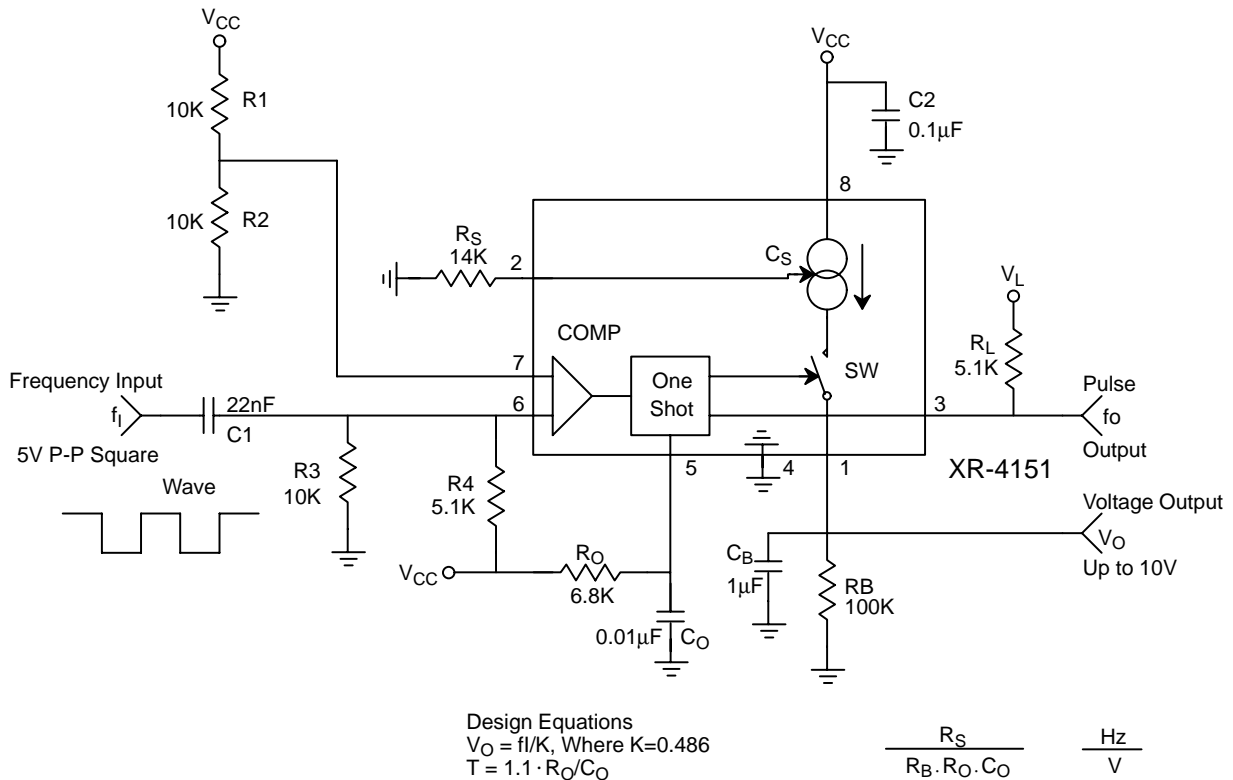

Figure 4. Frequency to Voltage Converter
The XR-4151 can be used as a frequency-to-voltage converter. *Figure 4* shows the single-supply FVC configuration. With no signal applied, the resistor bias networks tied to pins 6 and 7 hold the input comparator in the off state. A negative going pulse applied to pin 6 (or positive pulse to pin 7) will cause the comparator to fire the one-shot. For proper operation, the pulse width must be less than the period of the one-shot, $T = 1.1 R_0 C_0$. For a 5Vpp square-wave input the differentiator network formed by the input coupling capacitor and the resistor bias network will provide pulses which correctly trigger the one-shot. An external voltage comparator can be used to “square-up” sinusoidal input signals before they are applied to the XR-4151. Also, the component values for the input signal differentiator and bias network can be altered to accommodate square waves with different
- I. Design a precision VFC (from *Figure 4*) with $fo = 100kHz$ and $V_{IO} = -10V$.